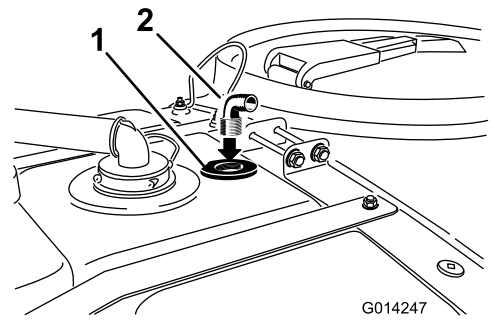

Figure 16
4. Install the 90° fitting into the threaded opening of the bulkhead fitting (Figure 16).